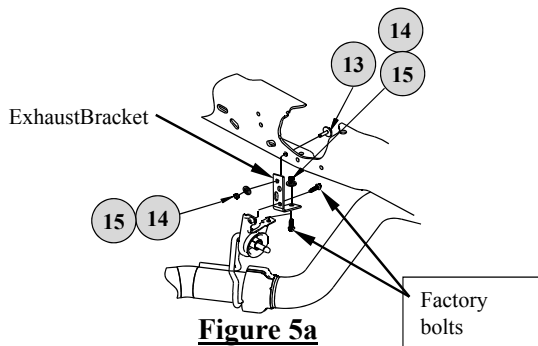

Figure 5a
16. If there is less than 1/2" clearance between the exhaust pipe and the Hide-A-Goose cross members, the exhaust bracket supplied with the 4449 mounting kit must be used. See figure 5a and 5b for 2008 models and up. For the rear attachment (Figure 5a), fasten the supplied bracket extension to the factory bracket with the factory M8 bolts, then fasten the extension to the frame with the supplied hardware. Reattach the exhaust bracket forward of the axle to the frame cross member with 3/8" spacers sandwiched between the bracket and cross member.